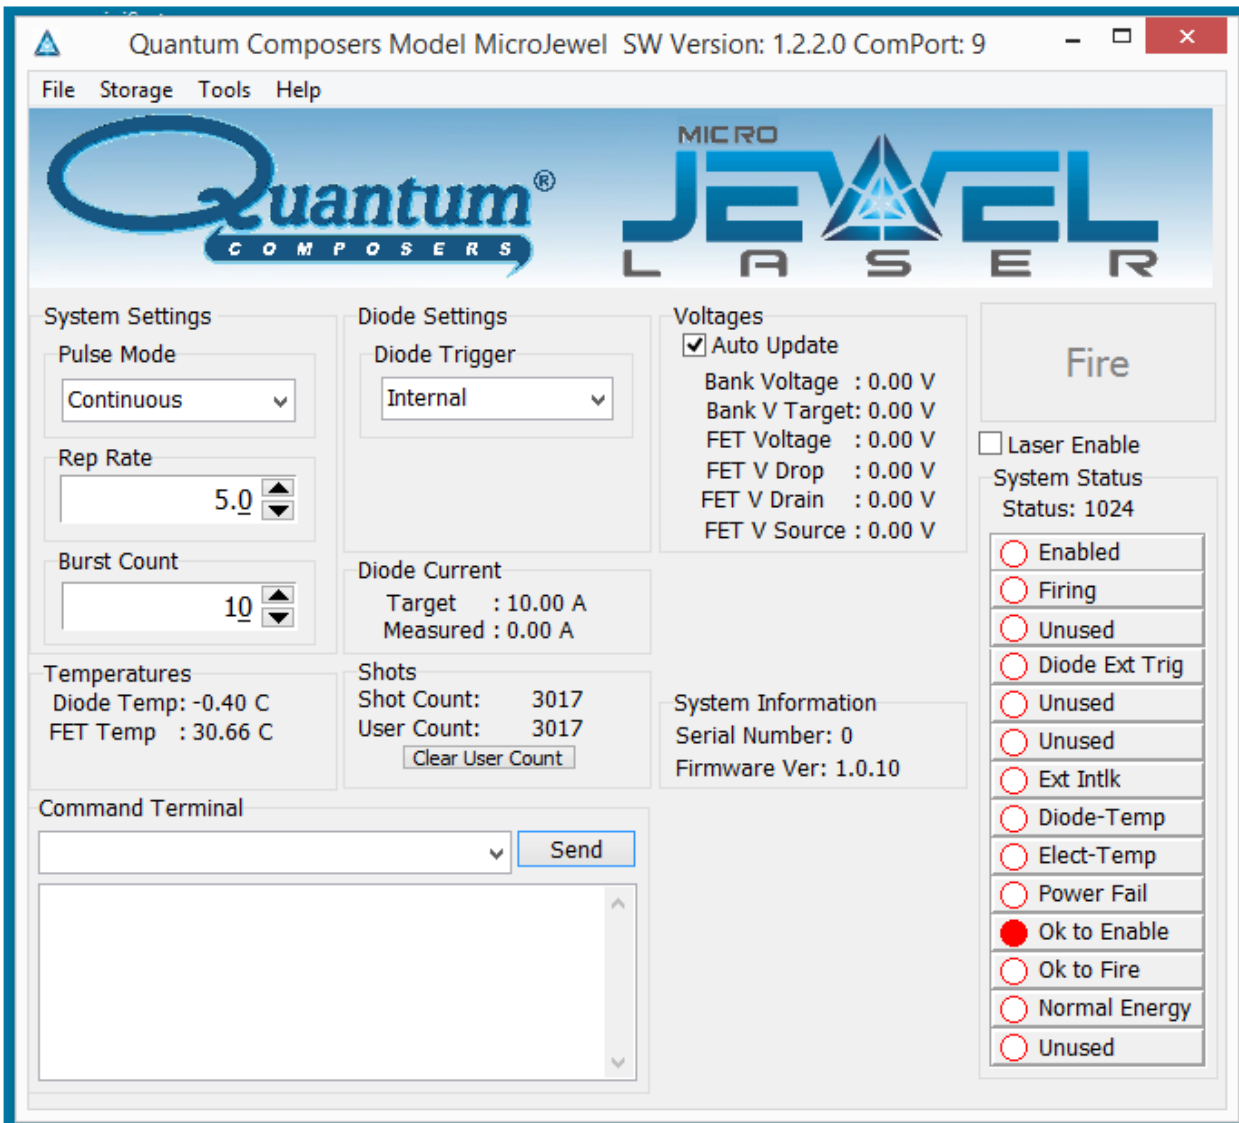

Figure 14: MicroJewel Software Application Main Window
- The MicroJewel Laser application will be displayed as shown in Figure 14.